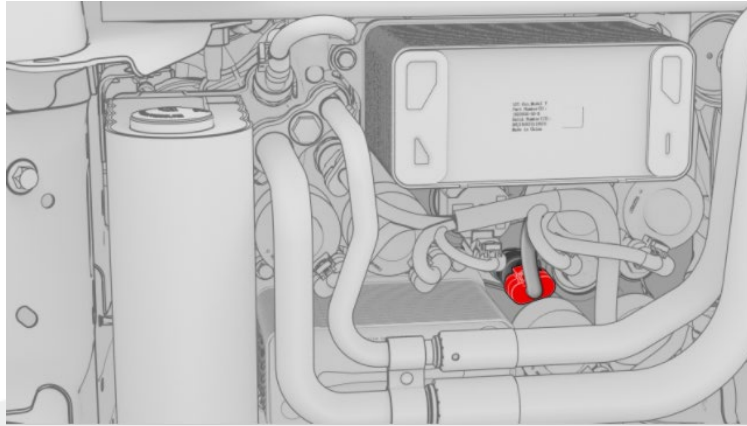
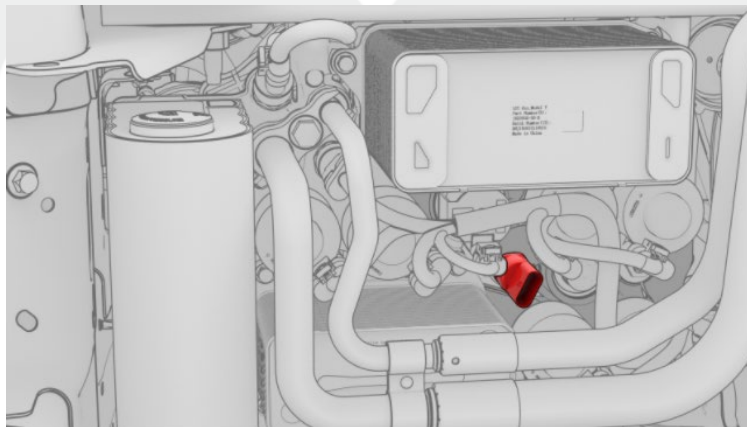

Figure 3
Figure 4
10. Release the locking tab, and then disconnect the electrical harness from the subcool high pressure P/T sensor connector (Figure 3).
11. Use the HVAC socket kit special tool to remove the subcool high pressure P/T sensor from the Supermanifold (Figure 4).
21. Repeat step 19.a through 19.f to install the new subcool high pressure P/T sensor (black connector) into the Supermanifold (Figure 4) and connect the electrical harness (Figure 3).